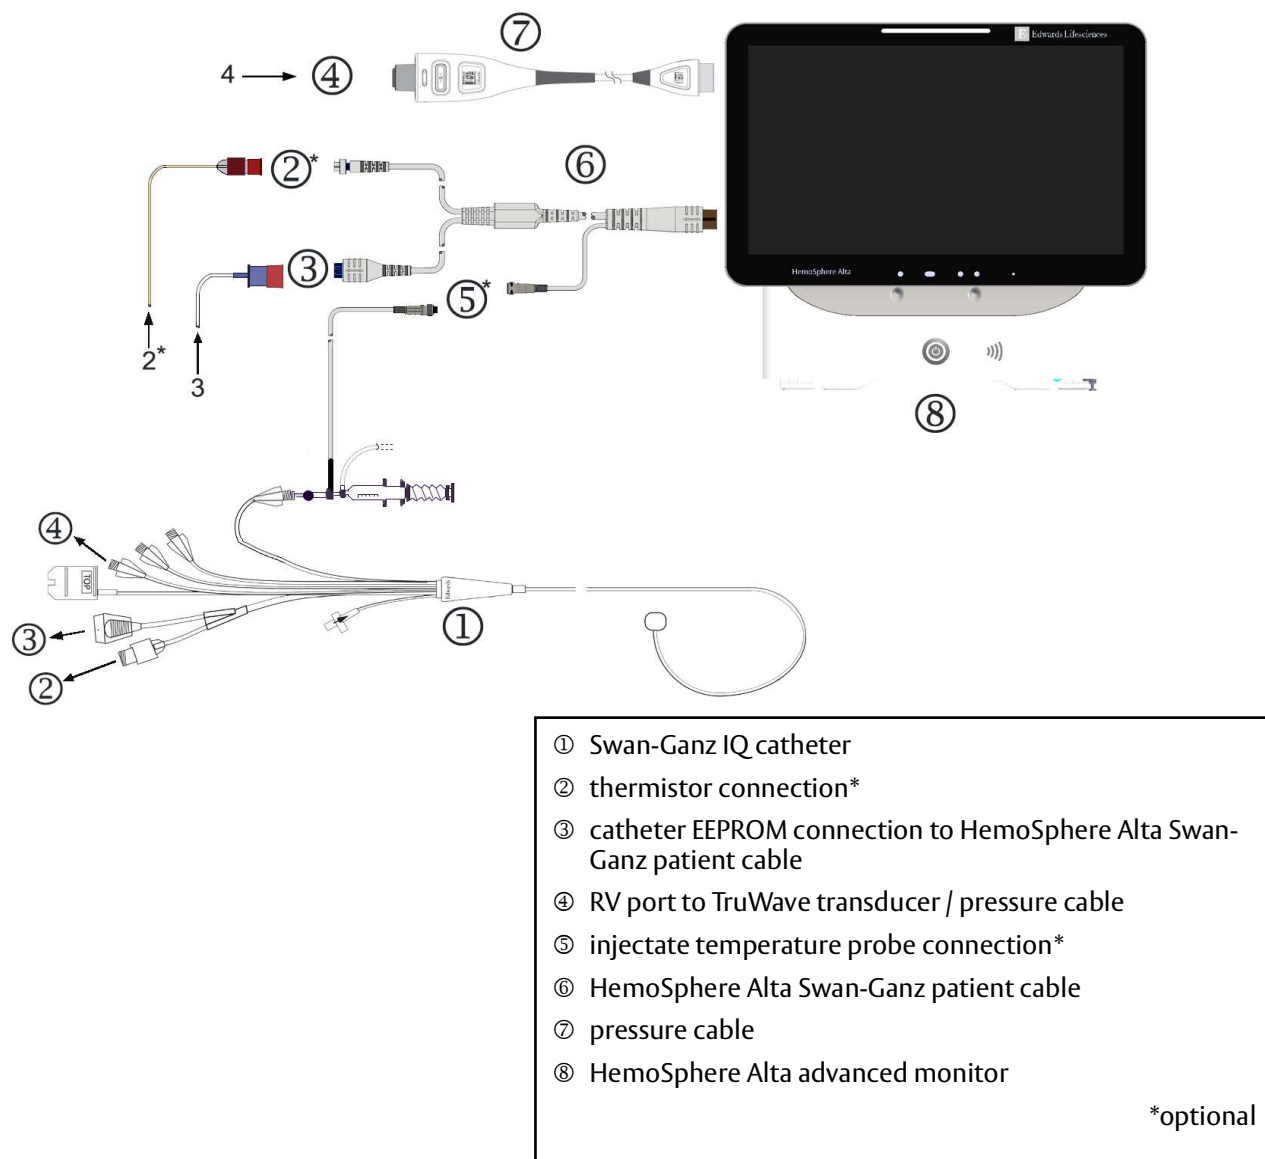

Figure 13-15 Swan-Ganz IQ catheter connection overview
- 2 Connect EEPROM connector of the catheter to the thermal filament connection of the HemoSphere Alta Swan-Ganz patient cable (as shown by ③ in figure 13-15).
- 3 Connect the RV port of the Swan-Ganz IQ catheter to TruWave transducer and pressure cable (as shown by ④ in figure 13-15). See *Pressure Cable Monitoring with a TruWave pressure transducer (DPT)* on page 158.
- 4 (Optional for iCO thermodilution): Attach the catheter end of the patient cable to the thermistor connector on the Swan-Ganz IQ catheter as shown by ② in figure 13-15.
- 5 (Optional for iCO thermodilution): Connect the injectate temperature probe (in-line or bath) to the injectate temperature probe connector on the patient CCO cable illustrated by ③ in figure 13-15.